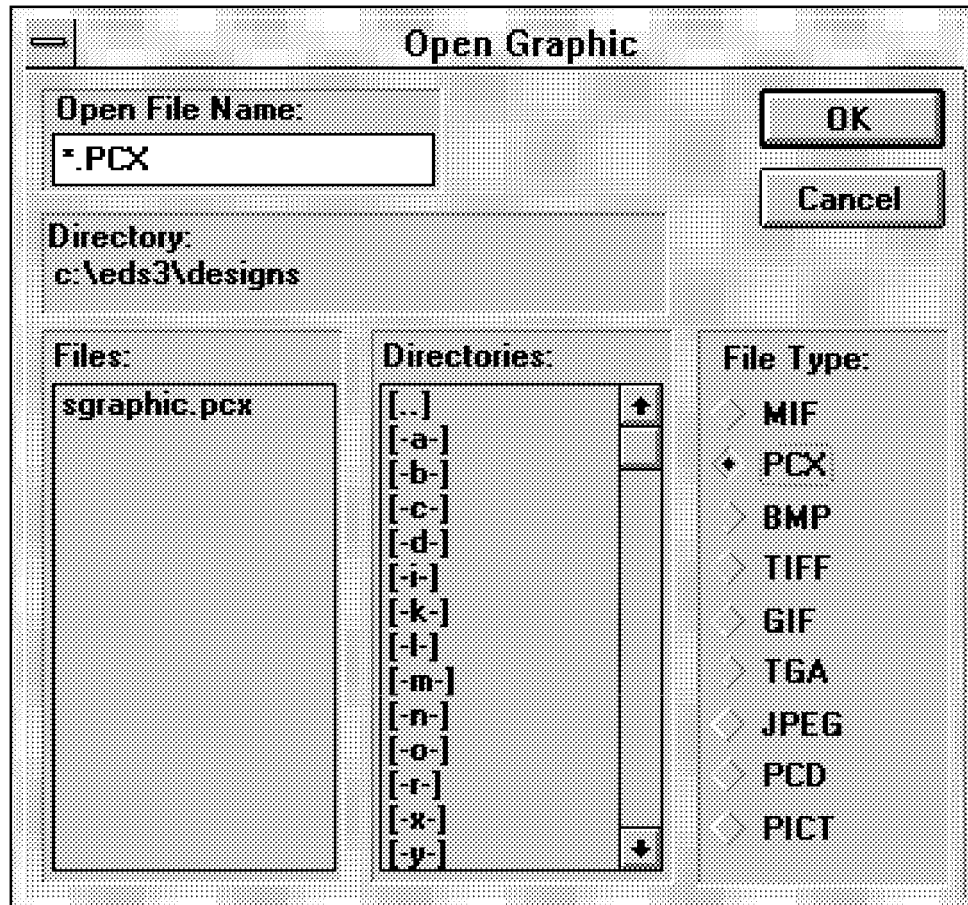

Figure 7-3
5. Double click in the directories list box until you get your desired directory pathname showing in the directory name location. In the example in Figure 7-3 we have chosen the d:\eds3\designs directory.